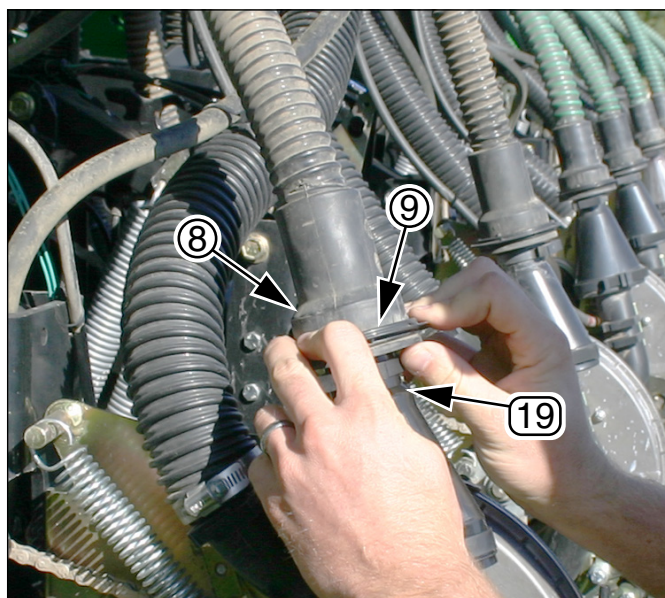

Figure 14
Reconnect Seed Hose**Refer to Figure 14****26. Make sure lock-ring (9) is high on boot (8). Pull boot fully over cone neck (13). Pull lock-ring down fully onto boot.****Close-Out**